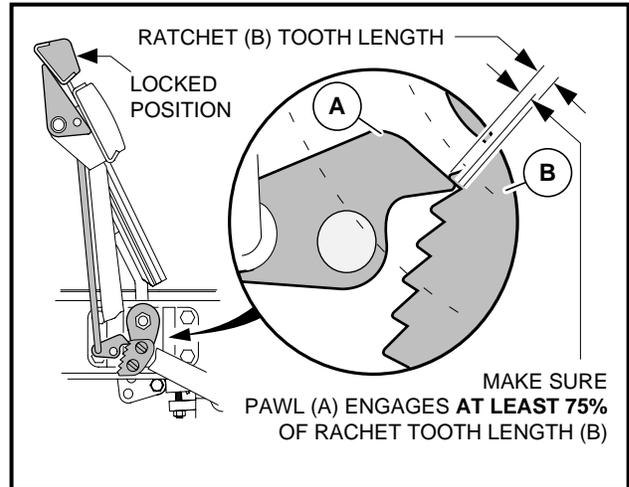

Figure 5-6 Ratchet/Pawl Tooth Engagement
- 2.3. With the park brake locked, make sure that at least 75% of ratchet tooth length engages the pawl (**Figure 5-6, Page 5-5**). Tooth engagement should be between the two lines marked on the pawl.